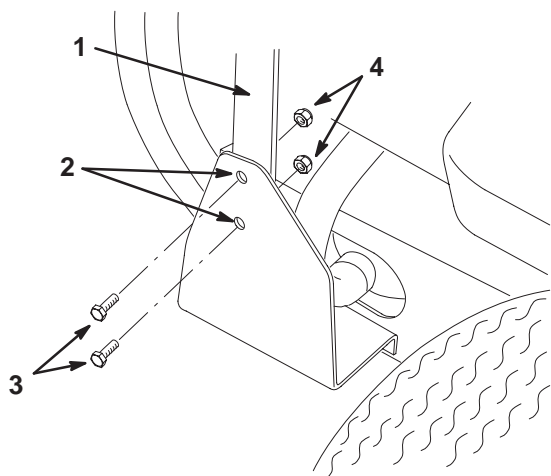

Figure 3
4. Drill 2 holes (11/32 in. dia.) through the right vertical brace of the bagger frame using the holes in the support bracket as a template (Fig. 3).
5. Secure the support bracket to the brace with 2 bolts (5/16 x 1 in.) and flange nuts (5/16 in.) (Fig. 3).